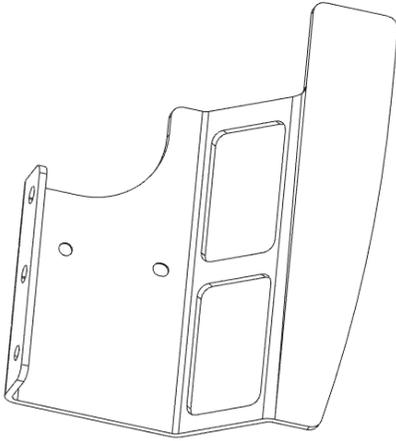

Figure 5. Long Offset Extender
- ▶ NVPN: 682-00003-5555-002 – Long offset extender (Figure 5)